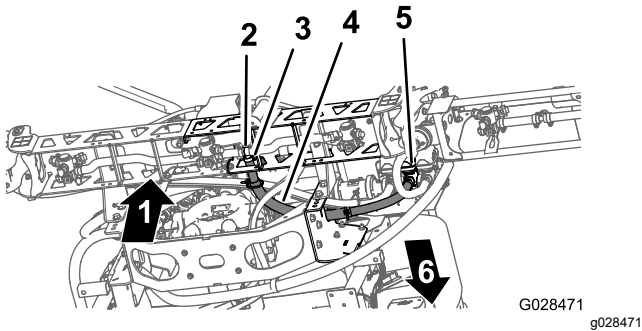

Figure 42
1. Route the center boom-section hose as shown in Figure 42.
2. Install the boom section hose over the barbed T-fitting at the center boom section and secure the hose with a hose clamp (Figure 42).